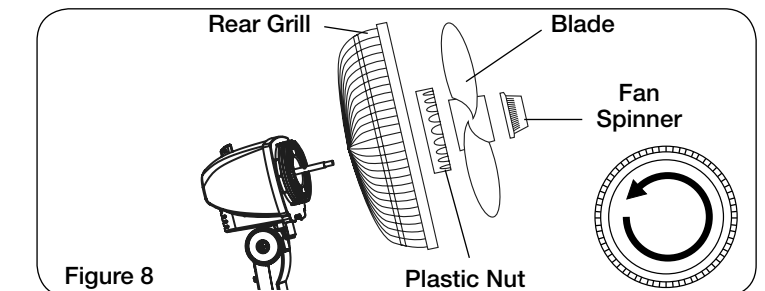

Figure 8
3. Fully seat Rear Grill and secure with Plastic Nut turning Clockwise. Slide Blade onto Motor Shaft. (**Figure 8**) Align Groove on blade hub with Pin on motor shaft. (**Figure 8A**)